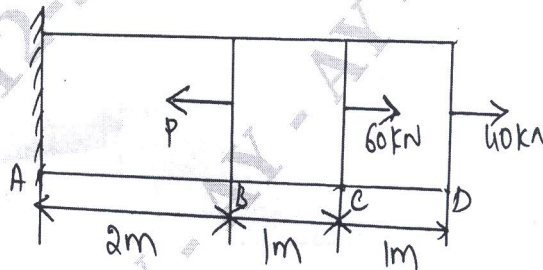

Fig Q1(c)
- c. Determine the magnitude of the load 'P' necessary to produce zero net change in the length of the straight bar shown in Fig Q1(c) $A = 400\text{mm}^2$.